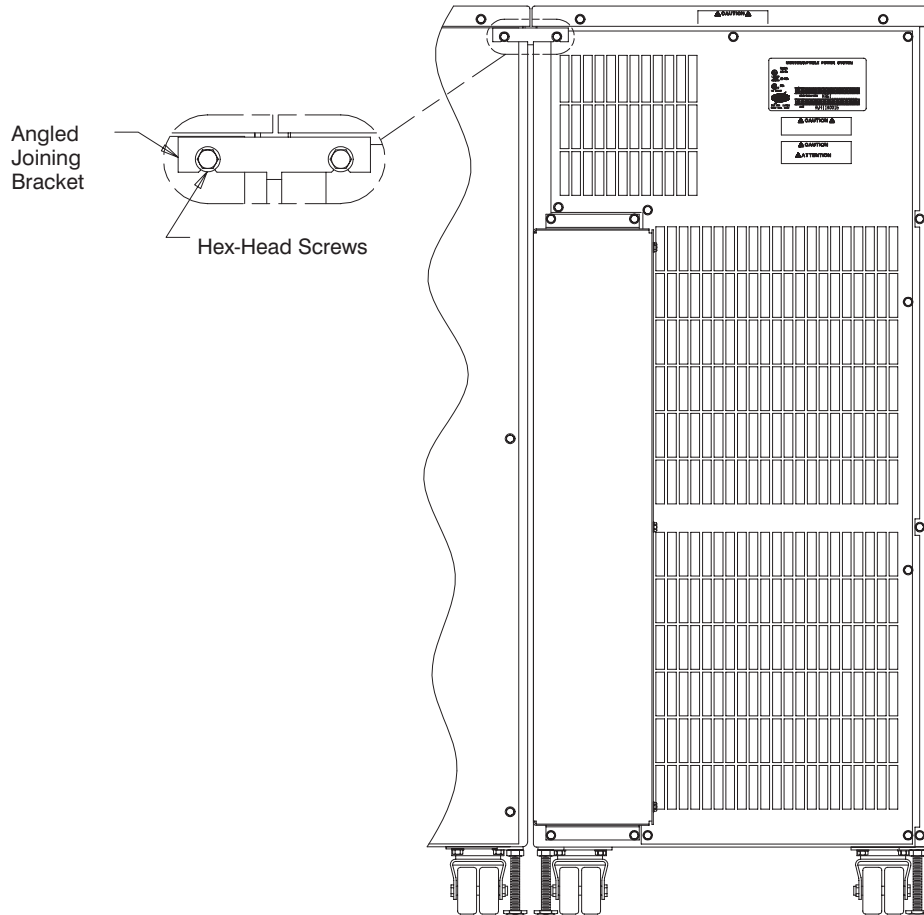

Figure 17. Cabinet Joining Detail (Rear View)
19. Remove the screws securing the adjoining top corners of the rear covers of both cabinets (see Figure 17).
- Place the flat joining racket above the locking nut on the front leveling feet (see Figure 17).